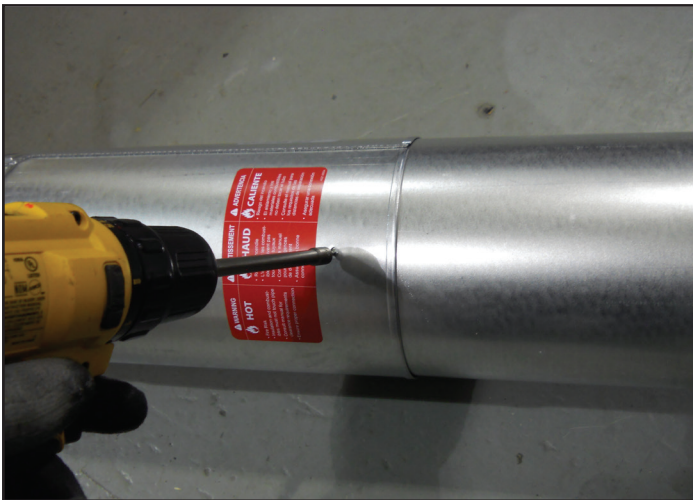

Figure 7.4 - Screws into Slip Section
- Secure the pipe and slip section with three screws no longer than 1/2 in. (13 mm), using the pilot holes in the slip section. See Figure 7.4.